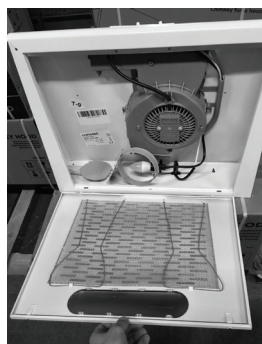

Fig. 2
3. Fit metal fat filter back and secure it with the wire holder (Fig. 2).